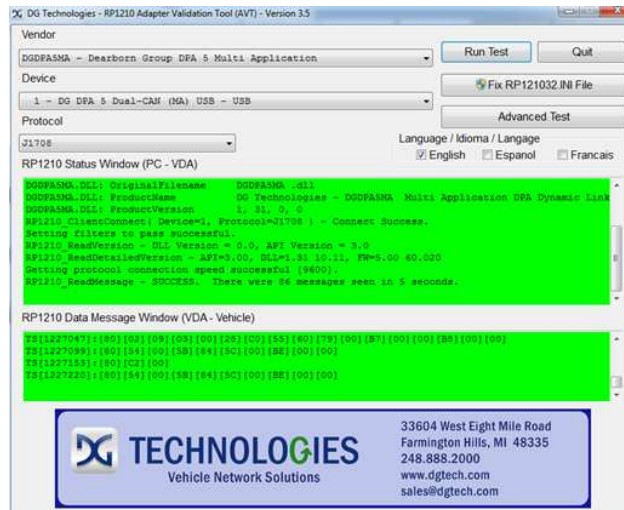

Figure 2.1: Adapter Validation Tool showing a successful connection between an ECM and the local computer.
- d) If the Adapter Validation Tool passes the test, then two windows will turn green as shown in Figure 2.1 on page 14. This means the ECM and the computer are connected through the RP1210 Device. If a test fails, review the suggestions output by the Adapter Validation Tool and try again. It may require shutting down the FLA, unplugging the USB, and disconnecting the FLA from power. Similarly, the PC may need to be rebooted.
- d) If the Adapter Validation Tool passes the test, then two windows will turn green as shown in Figure 2.1. This means the ECM and the computer are connected through the RP1210 Device. If a test fails, review the suggestions output by the Adapter Validation Tool and try again. It may require shutting down the FLA, unplugging the USB, and disconnecting the FLA from power. Similarly, the PC may need to be rebooted.